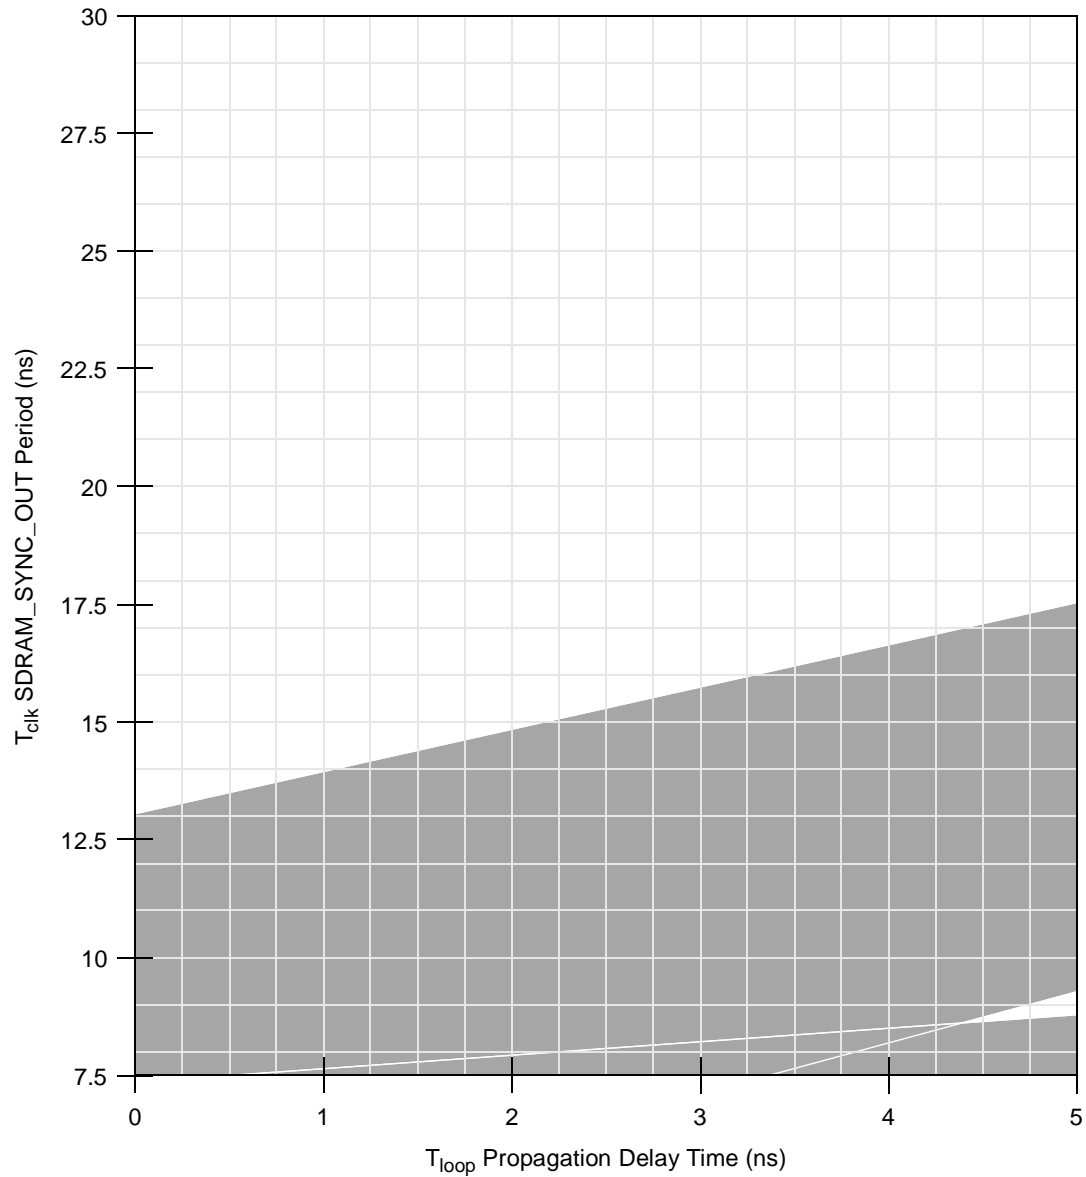
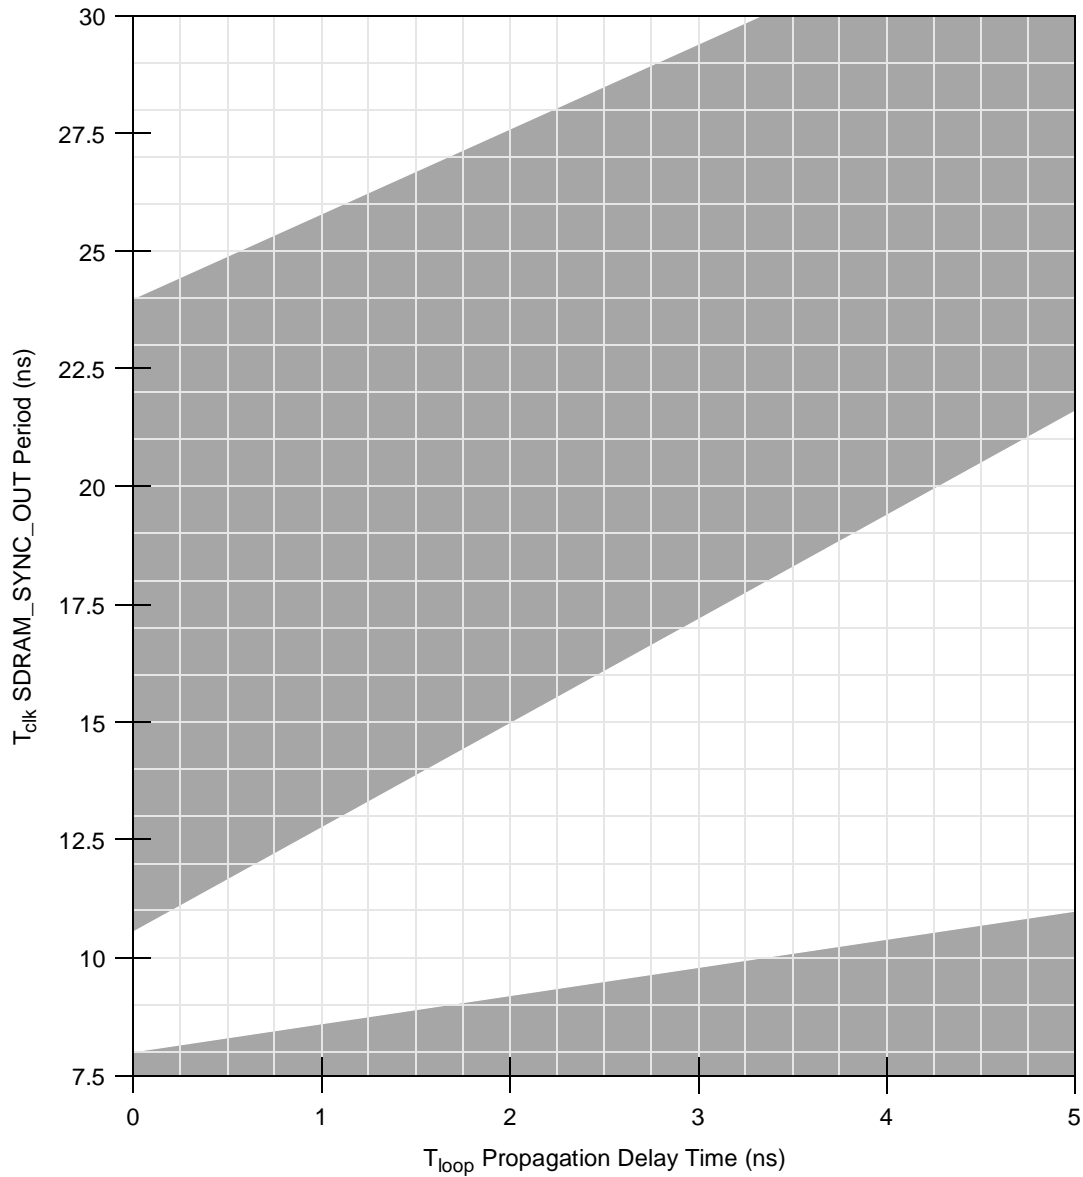
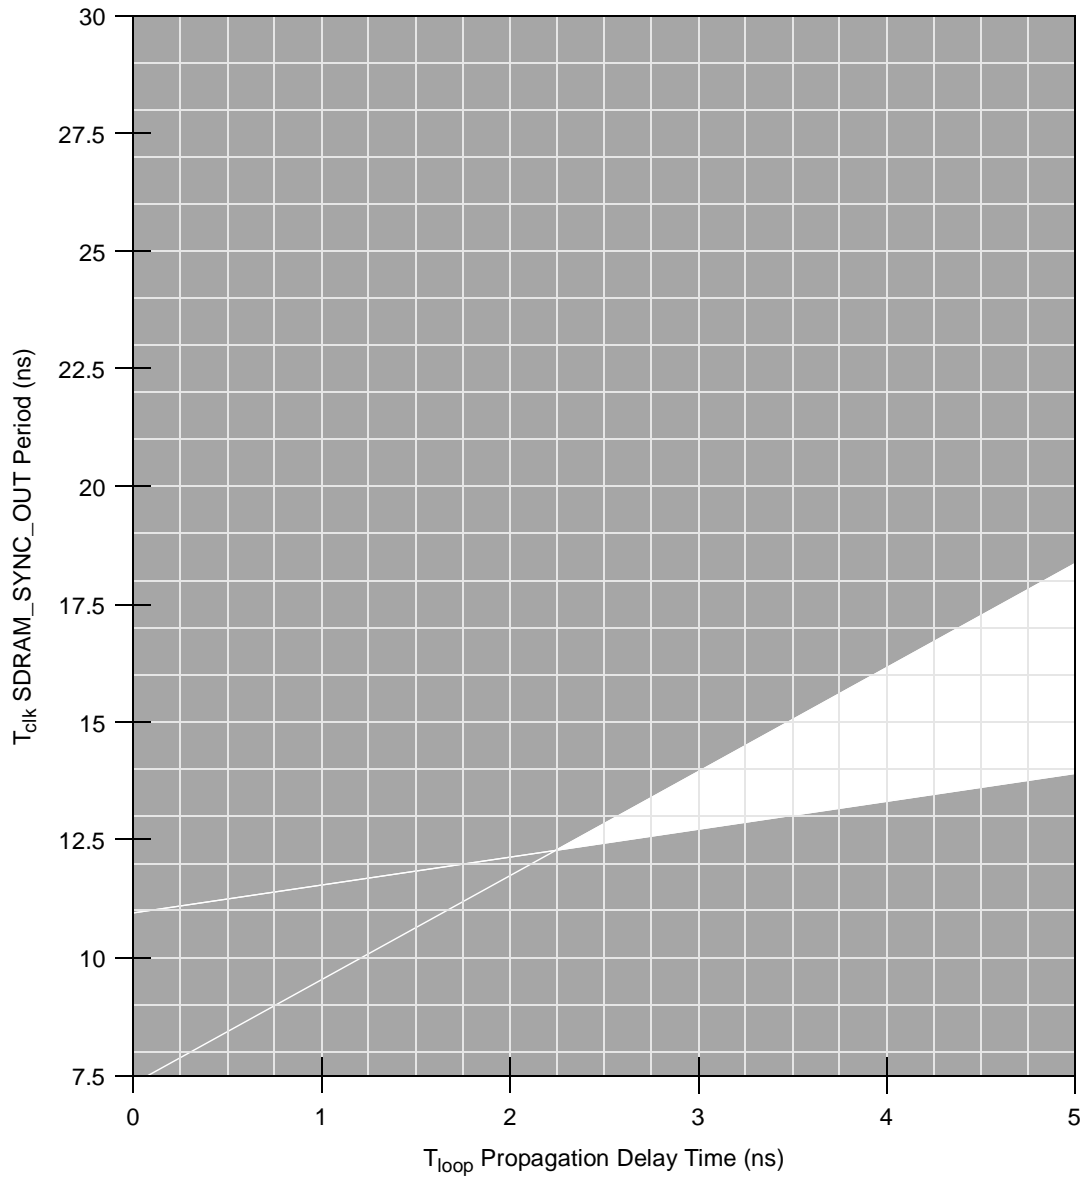

Figure 7. DLL Locking Range Loop Delay Versus Frequency of Operation for DLL_Extend=0 and Normal Tap Delay
Figure 8. DLL Locking Range Loop Delay Versus Frequency of Operation for DLL_Extend=1 and Normal Tap Delay
Figure 10. DLL Locking Range Loop Delay Versus Frequency of Operation for DLL_Extend=1 and Max Tap Delay
| 15 | DLL lock range with DLL_EXTEND = 0 (disabled) and normal tap delay; (default DLL mode) | See Figure 7 | | ns | 6 |
| 16 | DLL lock range for other modes | See Figure 8 through Figure 10 | | ns | 6 |
- DLL_EXTEND is bit 7 of the PMC2 register <72>. N is a non-zero integer (see Figure 7 through Figure 10). T_{clk} is the period of one SDRAM_SYNC_OUT clock cycle in ns. T_{loop} is the propagation delay of the DLL synchronization feedback loop (PC board runner) from SDRAM_SYNC_OUT to SDRAM_SYNC_IN in ns; 6.25 inches of loop length (unloaded PC board runner) corresponds to approximately 1 ns of delay. For details about how Figure 7 through Figure 10 may be used refer to the Freescale application note AN2164, *MPC8245/MPC8241 Memory Clock Design Guidelines*, for details on MPC8245 memory clock design.
Figure 7 through Figure 10 show the DLL locking range loop delay vs. frequency of operation. These graphs define the areas of DLL locking for various modes. The gray areas show where the DLL locks.